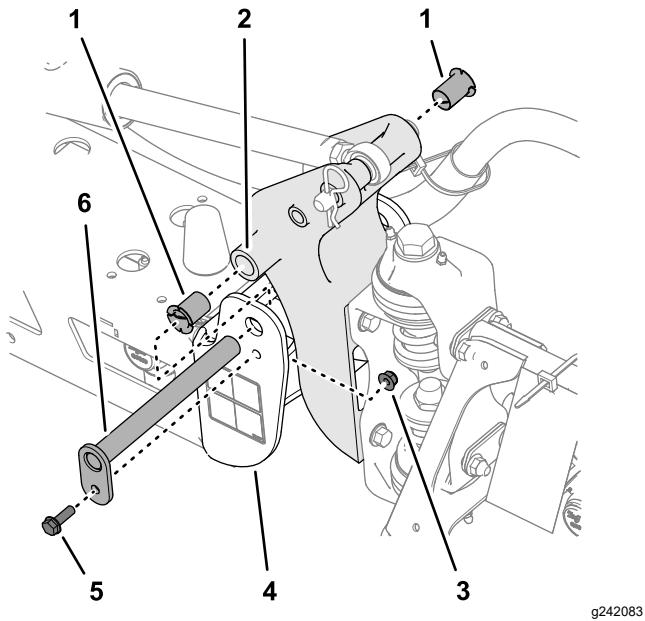

Figure 152
3. Remove the bolt and nut that secure the pivot pin, and remove the pin (Figure 152).
5. Remove and inspect the nylon bushings from the front and back sides of the pivot bracket (Figure 152).
6. Lubricate the nylon bushings with a small amount of oil, and install the bushings into the pivot bracket (Figure 152).
7. Align the holes in the pivot bracket with the holes in the end channel (Figure 152).